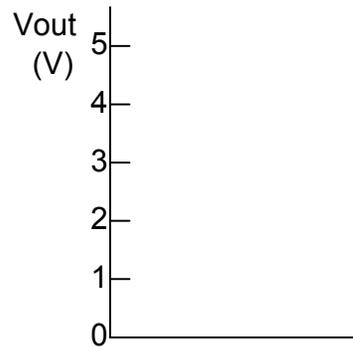

Figure 5.11 Output levels
1.1.6. Draw the input and output voltage ranges in the diagrams in Figure 5.10 and Figure 5.11 in section 1.2 of your Lab Measurements Sheet. What are your conclusions about the input threshold and output logic level voltage properties of the 74HCxx NAND gates powered by $V_{dd}=+5V$? Answer the question in section 1.3 of the Lab Measurements Sheet.